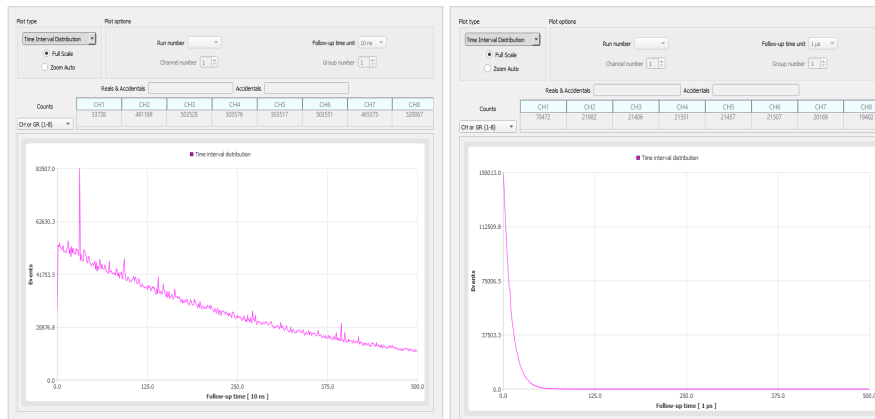

Fig. 2.13: Two different examples of time interval distributions.
- **Time Interval Distribution:** this is the distribution of the time differences between one event and the following one inside the pulse train. A histogram is filled with the ΔT values and the width of a single bin of the histogram corresponds to the *Follow-up time unit*, and can be set to 10 ns, 100 ns, 1 μ s, 10 μ s, 100 μ s, 1 ms. Two plot examples are shown in **Fig.2.13**.